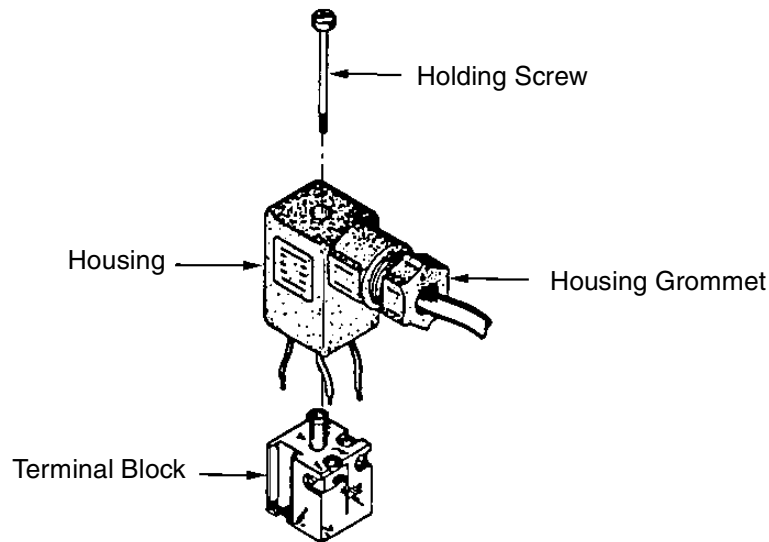

Figure 1-2 Solenoid Assembly
2. Remove the terminal block from its housing by inserting a small, flat-head screwdriver in the slot provided at the terminal base and prying the housing off (Figure 1-2).